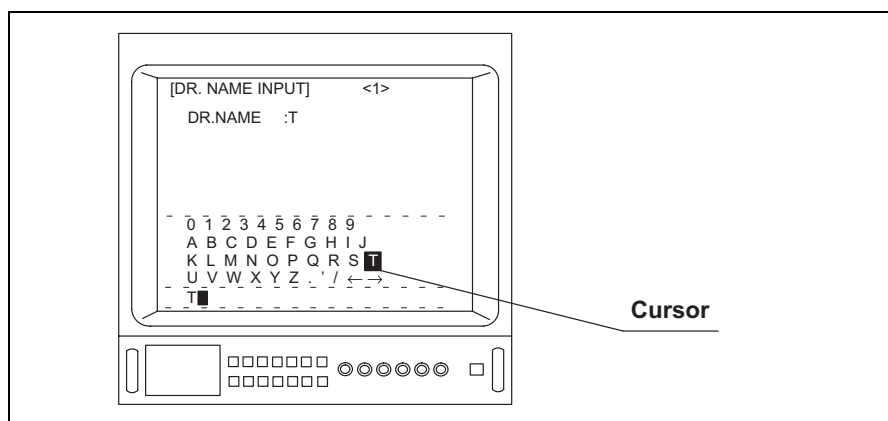

Figure 5.73
9. Depress the menu switch “↵” or the “Enter” key on the keyboard to enter the character under the cursor (for example, “T”) (see Figure 5.73).